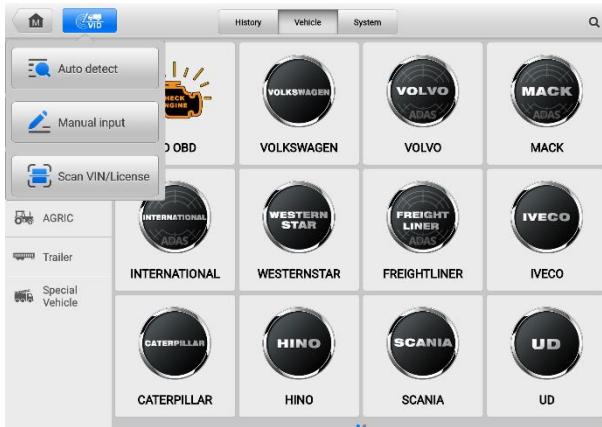

Figure 4-3 Auto Detect Screen
3. Select **Manual Input** (*Figure 4-3*).
3. Tap **Scan VIN/License** in the dropdown list (*Figure 4-3*). The camera will launch. On the right side of the screen, from top to bottom, three options are available: Scan Bar Code, Scan VIN, and Scan License.